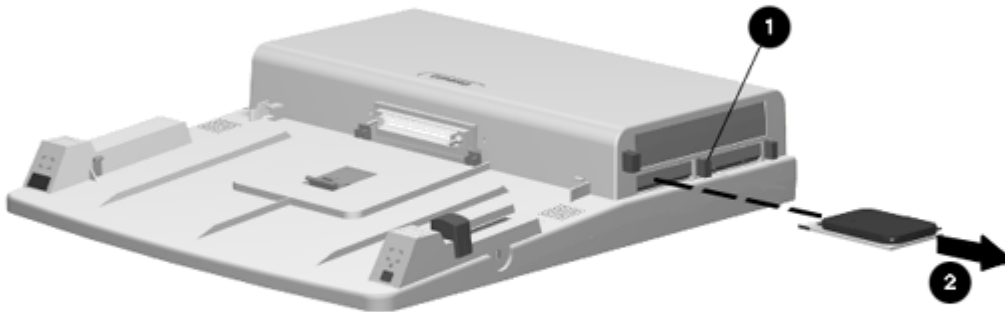

Figure 6-7. Removing a PC Card
1. Push the PC Card release button [1]. The card [2] ejects out of the card slot (Figure 6-7).